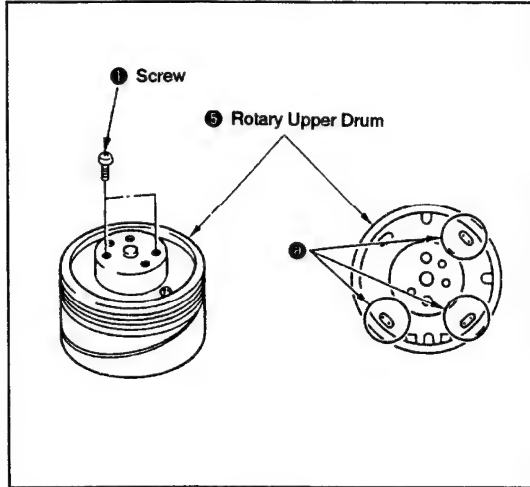
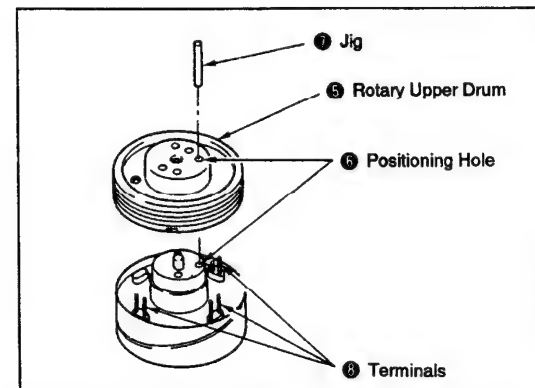

Fig. 3-22.
Fig. 3-24.
- 1) Detach the six solderings ④, then use a pair of tweezers or the like to confirm that the terminals passing through the board holes from below can move freely.
- 2) Remove the two screws ① (See Fig. 3-22).
- 1) Wipe clean the flange surface and the rotary upper drum ⑤ surface that makes contact with it, and confirm that they are free from dirt and scratches.
- 2) Insert the jig ④ (Ref. No. J-7) into the drum positioning hole, then set the rotary upper drum ⑤ by passing the jig through its positioning hole ⑥.
- Note:** Confirm that the terminals ⑧ protrude slightly from the rotary upper drum board holes (See Fig. 3-24).
- 3) Remove the jig ④ and push down the rotary upper drum ⑤ gently by hand. If it does not go all the way down, secure it temporarily by tightening the two hexagon socket screws ③ alternately.
- 4) Insert the jig ④ into the positioning hole ⑥ again and confirm that it goes in smoothly. If it does not, loosen the two screws ③, repeat step 3 of the Removal paragraph and restart the setting procedure.
- 5) Tighten the screws ③.
- 6) Solder the terminals ⑧ (⑧ in Fig. 3-22).